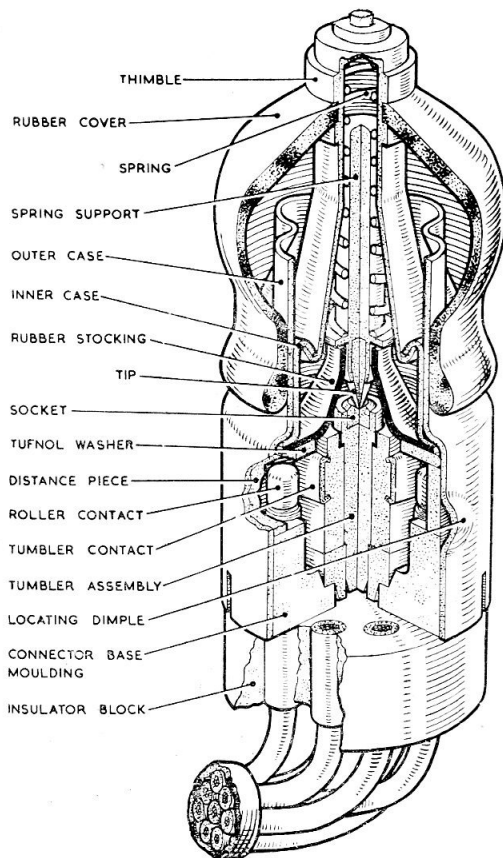

Fig. 1. Sectional view of four-way trim switch
8. A sectional view of the four-way trim switch is shown in fig. 1. The operating thimble, complete to the spring, spring support and tip is assembled in the inner case, the rim of the thimble fitting under the turned down edge of the inner case.